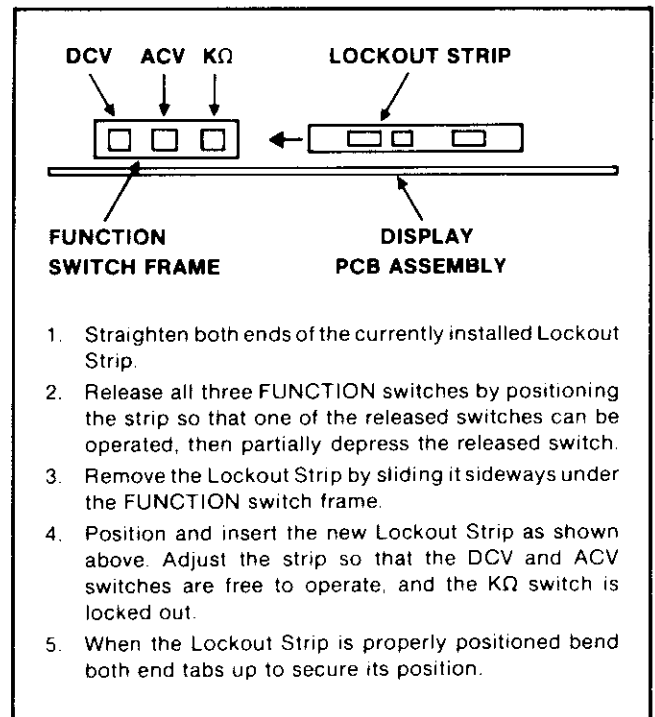

Figure 609-1. Installing the Lockout Strip
2. Determine the measurement functions that will be available when the True RMS Converter is installed; i.e., DCV and ACV or DCV, ACV, and k Ω . If k Ω is not available, prepare and install the Lockout Assembly as shown in Figure 609-1. If the Ohms Converter (Option -007) is installed, the Lockout Assembly is not required. In this case, complete only steps 1, 2, and 3 of Figure 609-1.